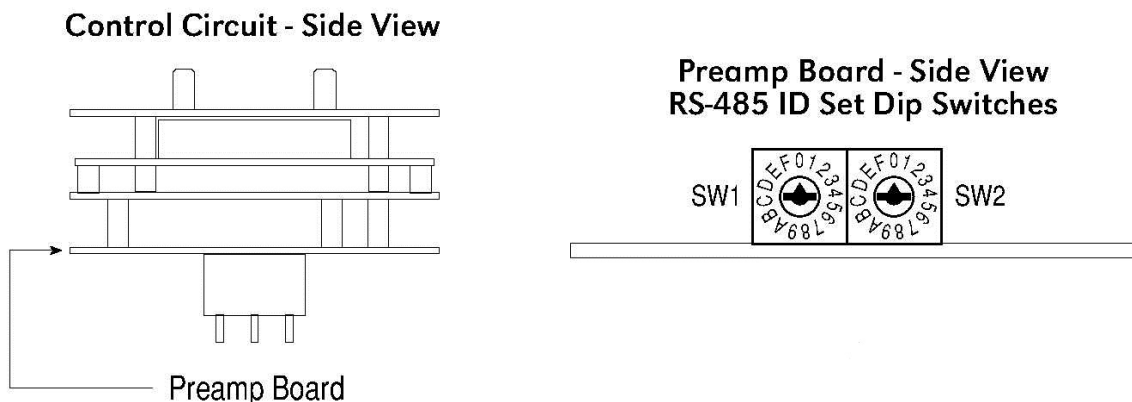

Figure 10 RS-485 ID set Dip Switch
- f. If applicable, set the RS-485 ID number via the two rotary dip switches located on the preamp board (see Figure 10). There are 256 different ID numbers available which are based on the hexadecimal numbering system. If RS-485 communications are used, each sensor must have its own unique ID number. Use a jeweler’s screwdriver to set the rotary dip switches according to the table listed on the following page. If RS-485 communications are not used, leave the dip switches in the default position which is zero/zero (0)-(0).